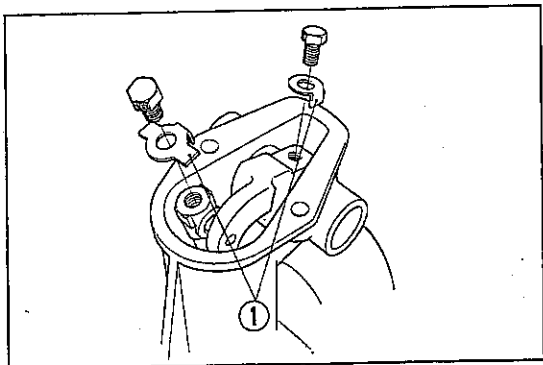

Fig. 188 ① Tongued washer
5. Install the tongued washer with the tongue positioned as shown in Fig. 188. Tighten the 6 mm bolt, and bend the washer tongue up against the bolt head.